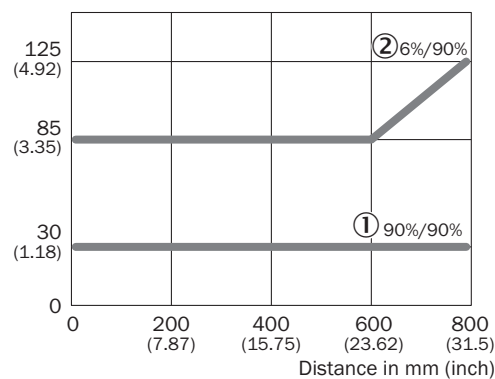

Figure 4: Minimum distance from object to background
5. Adjust the sensing range and distance to the object or background and the remission capability of the object. see figure 4, page 11